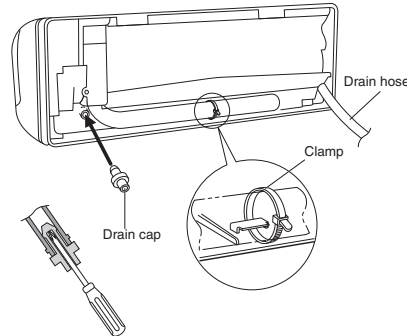

Fig. 3-65
- (d) Reattach the drain hose to the left side and the drain cap to the right side. (Fig. 3-65)